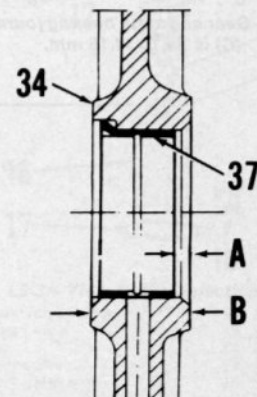

Fig. L4-22—Depth (A) of bearing (37) in end support (34) should be 5 mm. Support width measured at (B) is 33.90-33.95 mm.
When installing main bearing (37) in end support (34-Fig. L4-22), distance